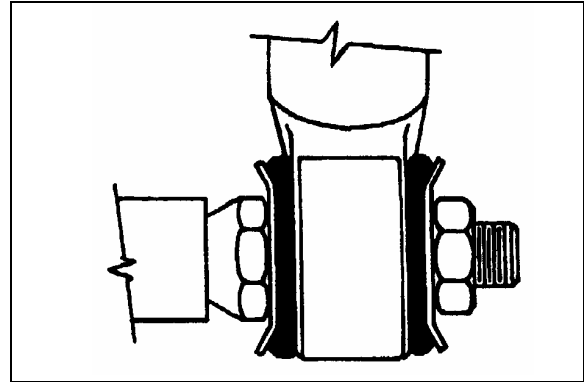

FIGURE 41: TYPICAL SHOCK ABSORBER SETUP
- Place the inner washers (with washer convex side facing the shock absorber rubber bushing) on each shock absorber pin (Fig. 41).